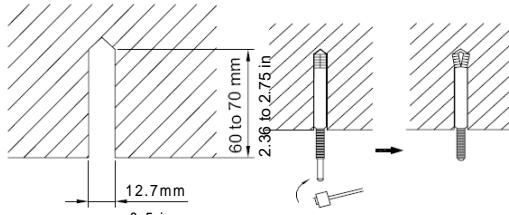

Fig.6
- (2). Install the bolts to the ceiling at a place strong enough to hang the unit. Mark the bolt positions from the installation template. With a concrete drill, drill for 0.5in diameter holes. (Fig.6)